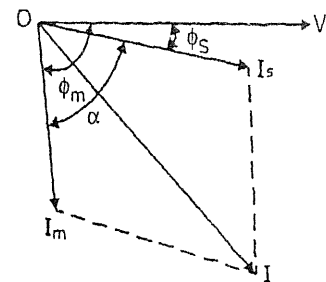

FIG. 4.22 : VECTOR DIAGRAM
- The vector diagram of the resistance start induction run single phase induction motor is shown in Fig. 4.22.